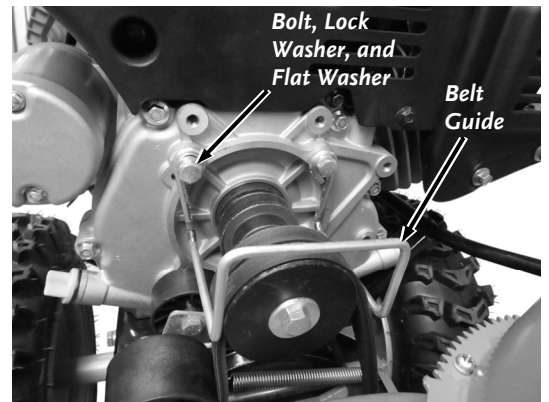

Figure 46
2. Remove the two Bolts, Lock Washers and Flat Washers that secure the Belt Guide to the Engine using a 13mm Wrench and remove the Belt Guide (**Figure 46**).
16. Install the Belt Guide and Belt Cover (**Figures 46 and 45**).